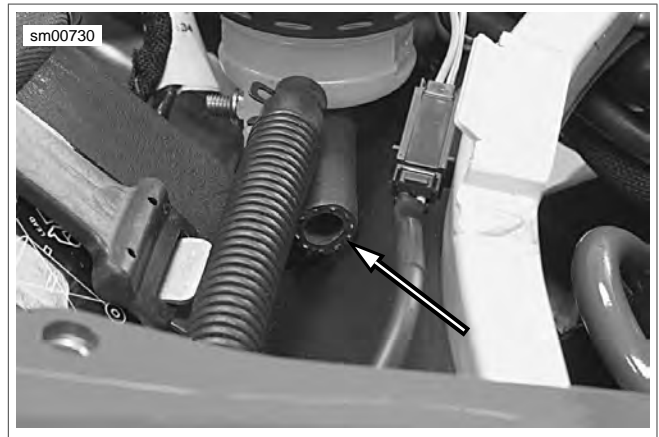

Figure 3-14. Transmission Vent Line: Firebolt
36. See Figure 3-14. Cut the cable straps holding transmission vent line and pull vent line out of frame leaving it attached to engine.